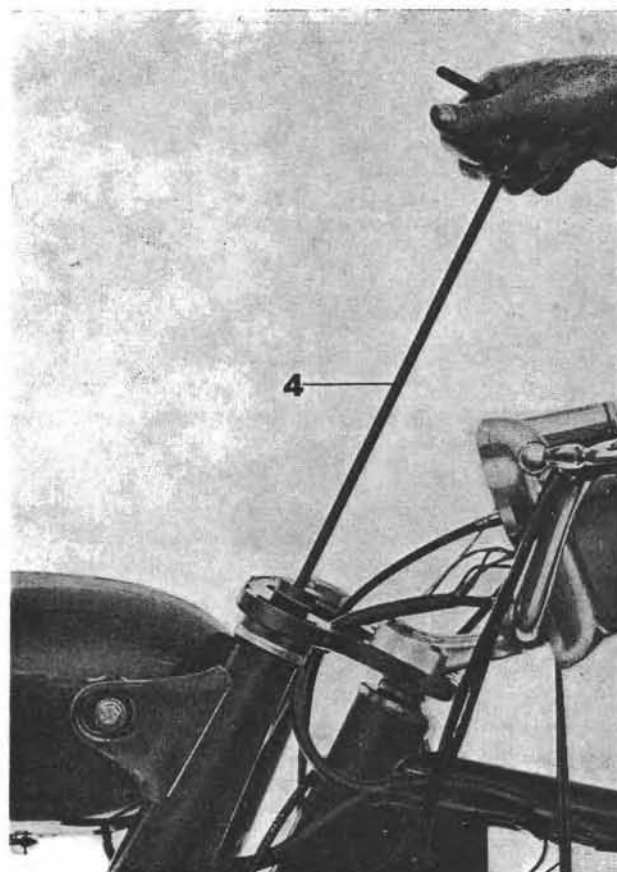

Fig. 105
- insert fork rod in bottom yoke and headlight bracket, positioning it by means of tool No. 12909500 previously connected to fork rod (see 4 on Fig. 105).